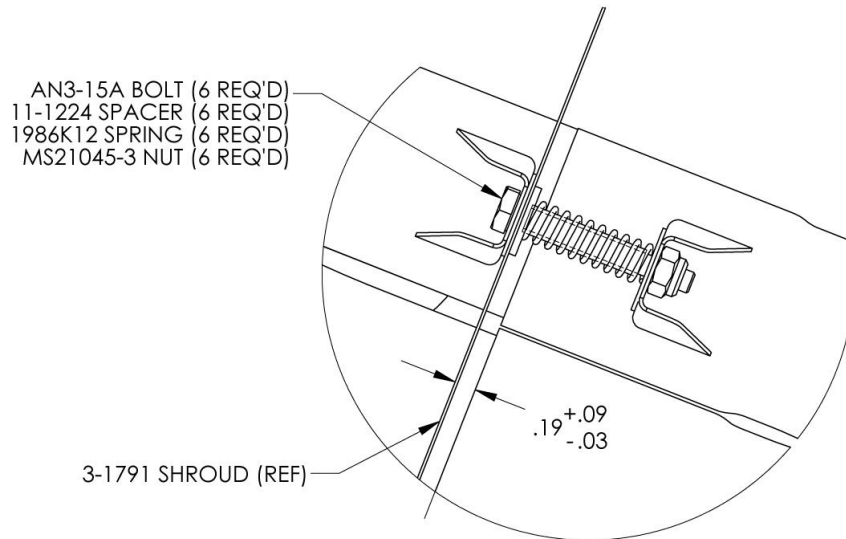

Figure 5, Modified Slip Joint
6. Secure #1 and #2 exhaust tubes to the collector with AN3-15A bolts as shown in figure 5. **DO NOT** over tighten bolts as cracking or distortion of bracket may occur. Bolts should be tightened to the .19 inch dimension shown in figure 5 allowing for expansion and movement of the inner tube within the slip joint.
8. Secure #1, #2, #3, and #4 cylinder risers with AN3-15A bolts as shown in figure 5. **DO NOT** over tighten bolt as cracking or distortion of bracket may occur. Bolt should be tightened to the .19 inch dimension shown in figure 5 allowing for expansion and movement of the inner tube within the slip joint.